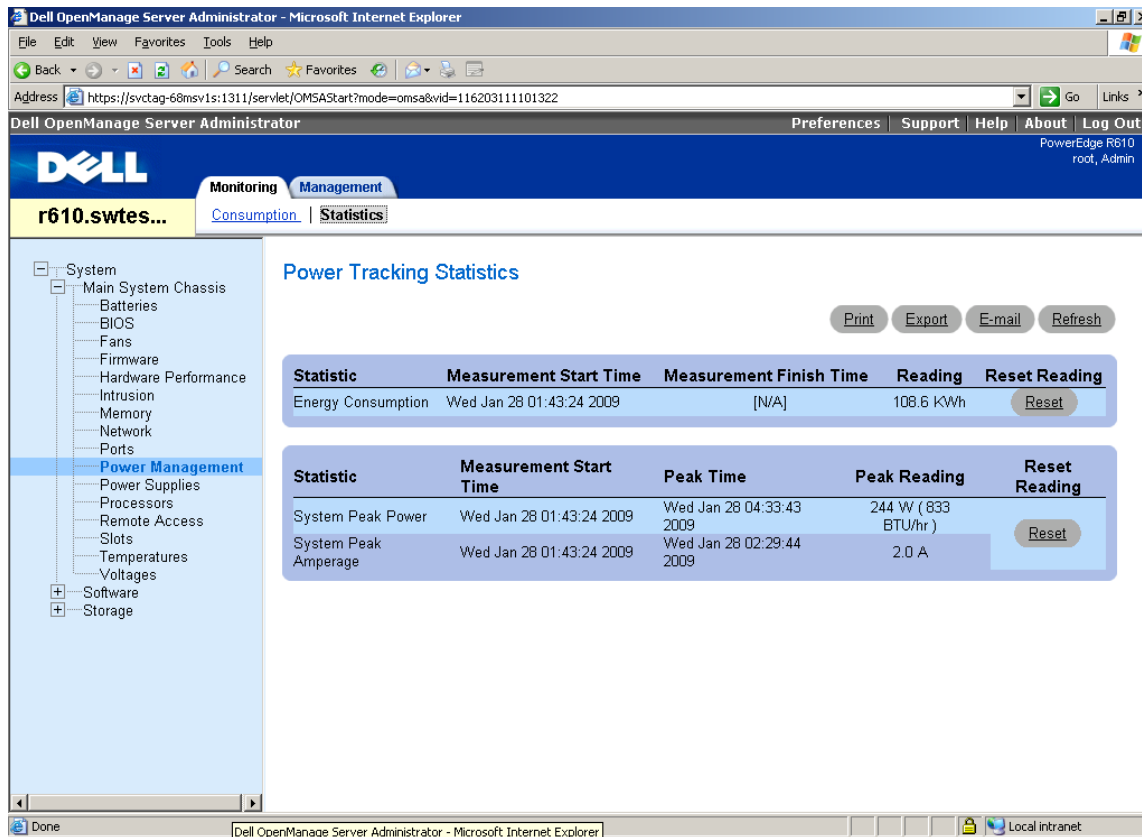

Figure 3: Power Management – Power Tracking Statistics Page
- Figure 3: Power Management – Power Tracking Statistics Page7
Administrators can also view key power monitoring data for power consumption, cumulative energy consumed, and system peak power, as shown in Figure 3.